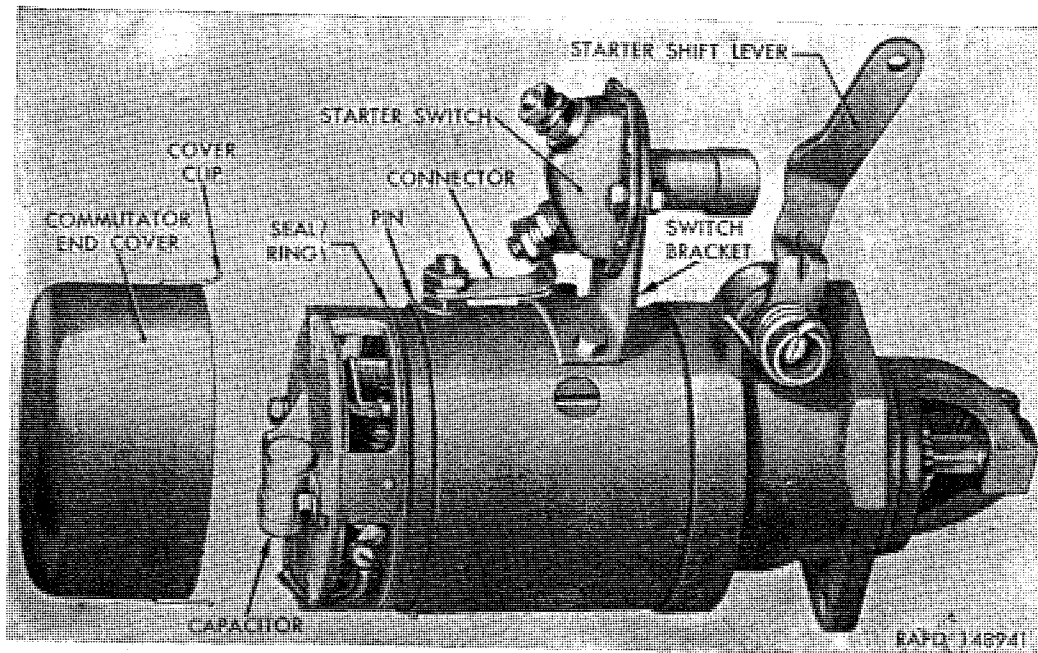

Figure 146. Starter with end cover removed.
- (1) Wipe all dirt and grease from exterior of starter.
- (2) Disengage two cover retaining clips from pins in starter field frame. Pull cover off end of starter (fig. 146); then remove O-ring gasket from groove in field frame.
- (1) *Removal.* Remove right front fender (par. 304b). Disconnect starter cable No. 82 from positive (+) post of right battery (fig. 144) to prevent accidental short when cable is disconnected from starter switch. Disconnect starter cable No. 82 from starter upper terminal. Remove nuts securing connector to switch lower terminal and starter field terminal. Remove connector. Remove nuts and lockwashers from two cap screws attaching switch to bracket, remove cap screws, then remove switch (fig. 146) from bracket.
- (2) *Installation.* Position switch (fig. 146) in bracket and secure with two 1/4-20 x 5/8 cap screws, 1/4-20 nuts, and 1/4-inch lockwashers. Scrape old waterproofing material off ends of connector. Install connector on switch and fields terminals and secure with lockwashers and nuts. Connect starter cable No. 82 to switch upper terminal. Coat all terminals, nuts, and connector with waterproofing material. Connect starter cable No. 82 to positive (+) post of right battery (fig. 144). Install right front fender (par. 304c).